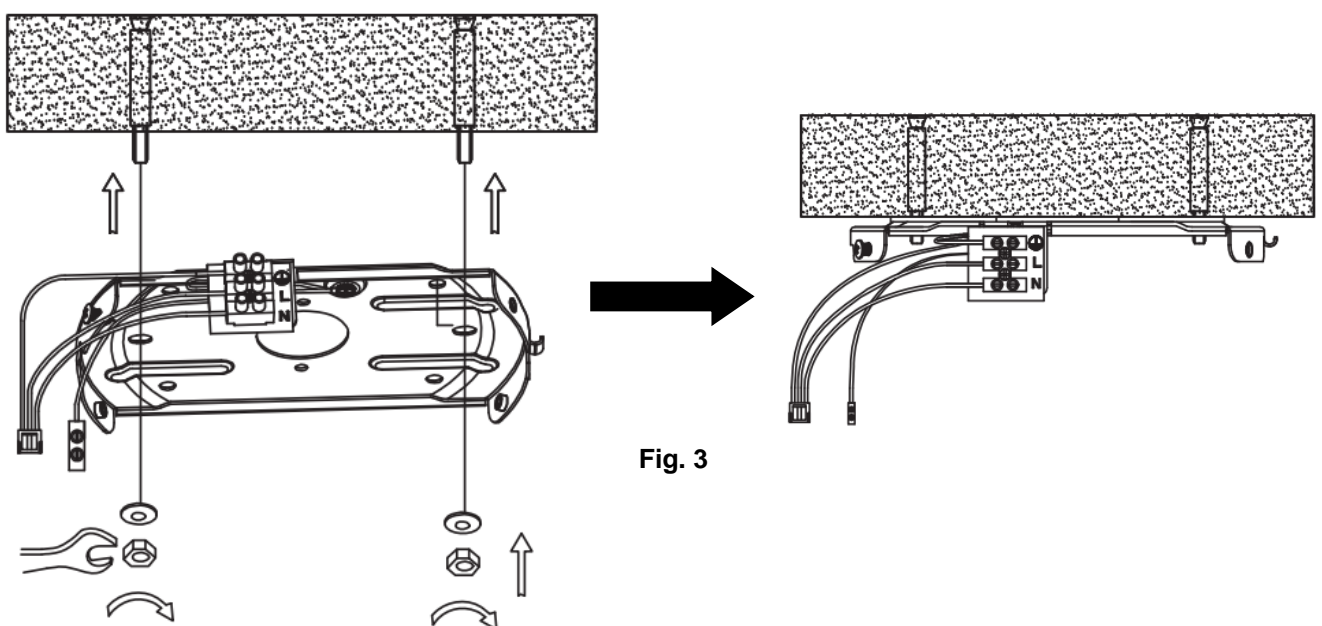

Fig. 3
- When install the ceiling fan on a concrete ceiling, use the 2 pcs expansion screws provided to secure the mounting bracket to the concrete ceiling. (Fig. 3)